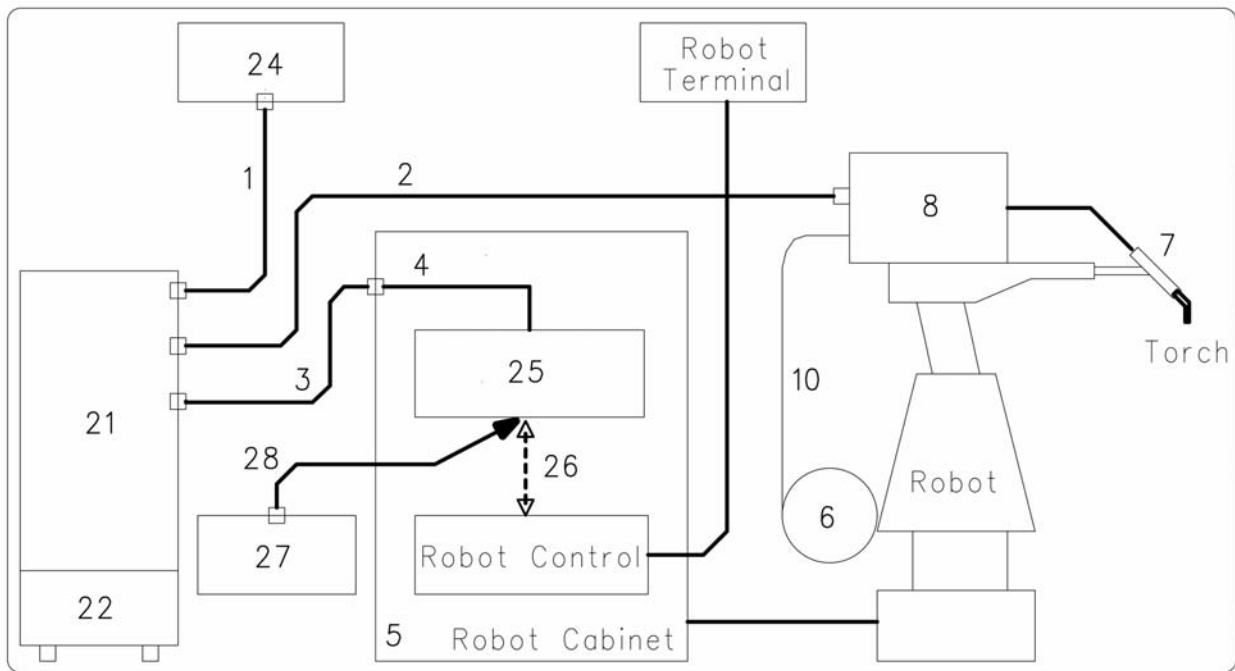

fig. 2
They are composed essentially from the equipments illustrated in the example of fig. 2.
- If not previously done, remove every connection between Robot Interface and Robot Control (connection (26) in fig. 2).
- Connect the Robot Simulator (27) to the Robot Interface (25) and to an external supply source, using exclusively proper extension (28), included in the Robot Simulator supply.